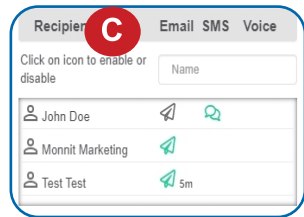

Figure 21
- C. Recipient list identifies who will receive the notification. See Figure 21.